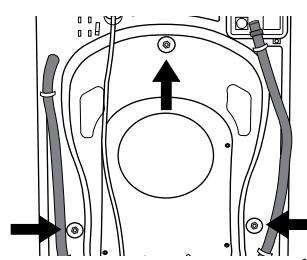

fig. 2
- Remove the screws holding the plastic covers to the back of the washing machine (Figure 2 and 3).